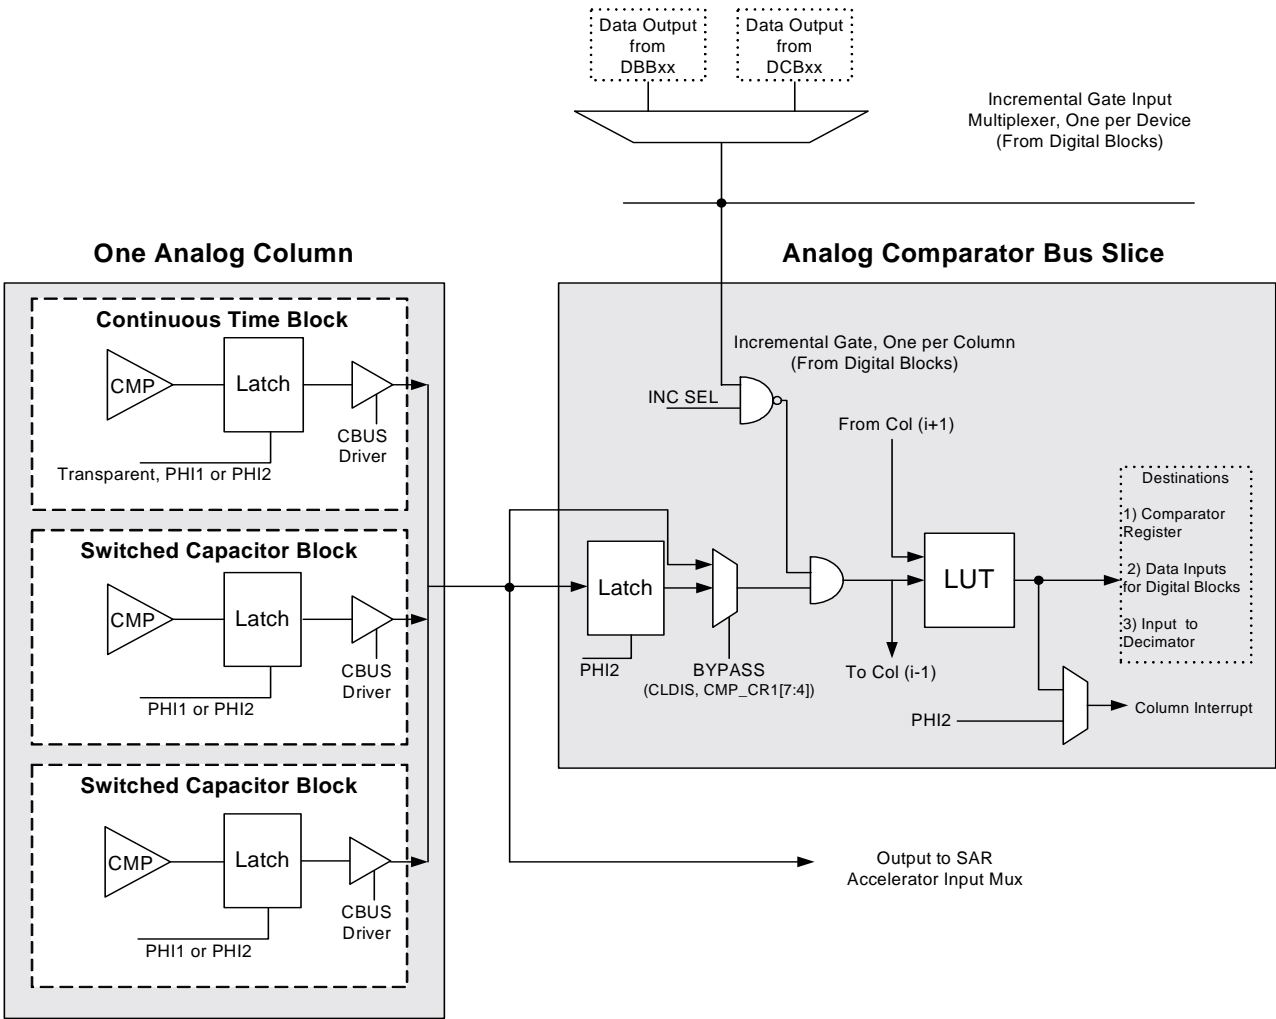

Figure 18-1. An Analog Comparator Bus Slice
Figure 18-1 displays the top-level diagram of the PSoC device's analog system.
Figure 18-1 illustrates one column of the comparator bus. In the Continuous Time (CT) analog blocks, the CPhase and
As shown in Figure 18-1, the Comparator bus output is gated by a signal from the digital blocks. This feature is used to precisely control the integration period of an incremental ADC. There are two direct connect digital block output options per row for driving the gate signal: DBBx1 and DCBx2. This selection may be made with the ICCKSEL bits in registers DEC_CR0 and DEC_CR1. This function may be enabled on a column-by-column basis by setting the IGEN bits in the DEC_CR0 register.